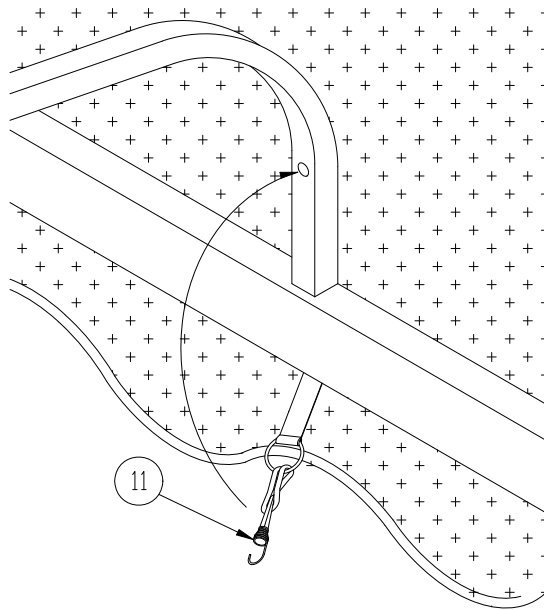

Figure 2-11
17. Refer to **Figure 2-11**. Wrap a bungee cord around the ring in the tie down strap and thread hook end through loop. Attach hook end to hole in canopy rib as shown.